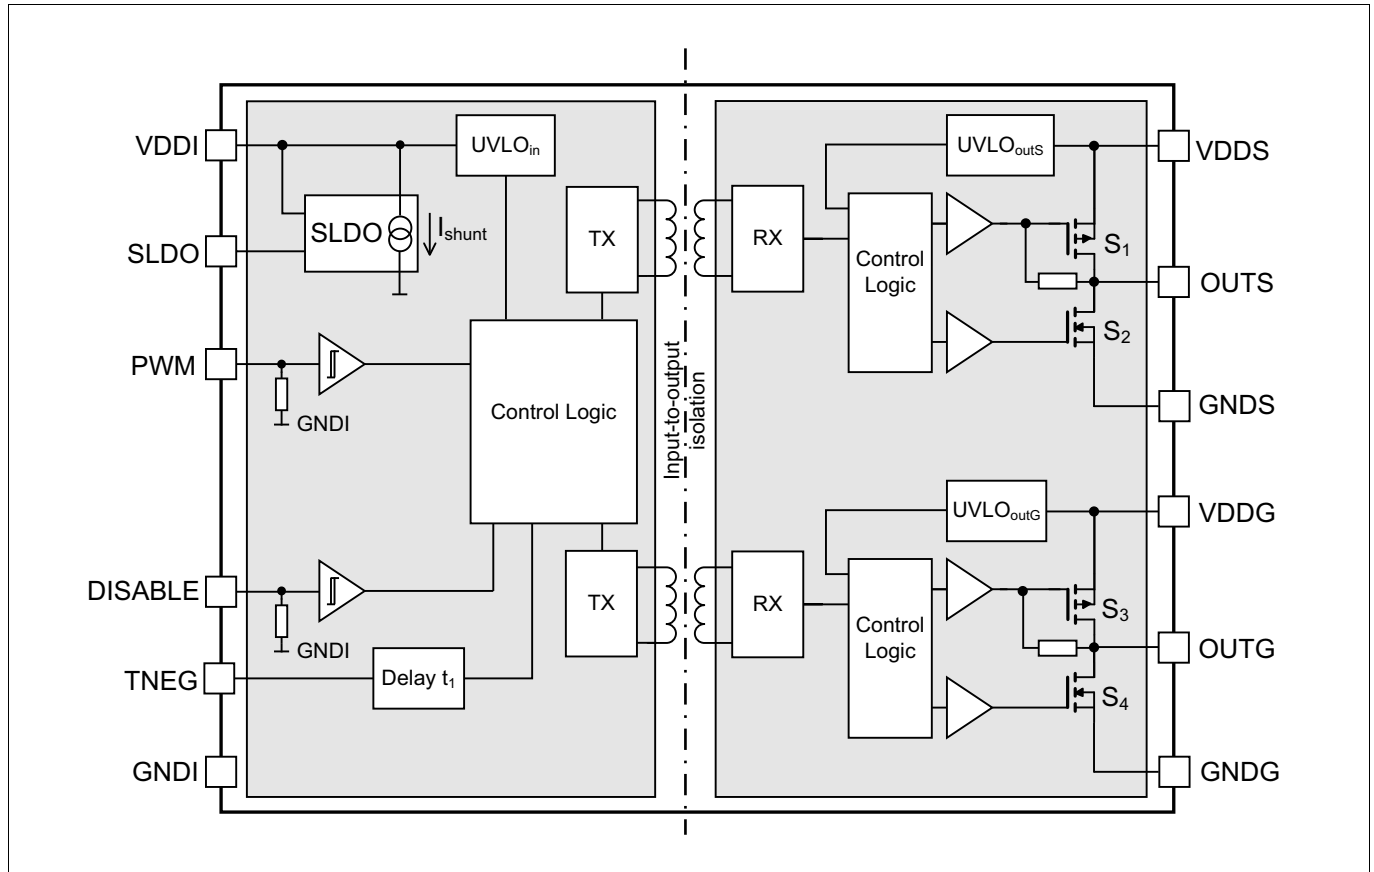

Figure 6 Block diagram
A simplified functional block diagram of the GaN EiceDRIVER™ is given in Figure 6. The 4 output transistors are placed on 2 separate dies. Isolation between input and outputs is achieved by means of two coreless transformer structures (CT) situated on the input die.